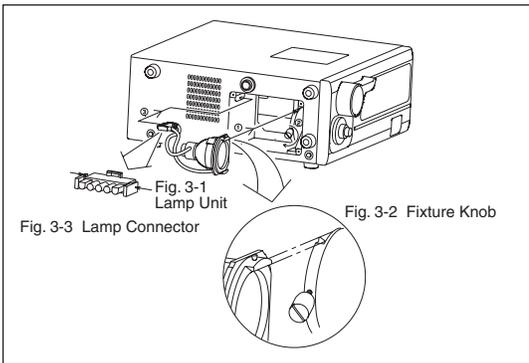

Fig. 3 How to attach a lamp unit
3. Squeeze both sides of the lamp connector with the V mark upward as shown in Fig.3 and gently insert the connector into the socket (Fig.3-3).